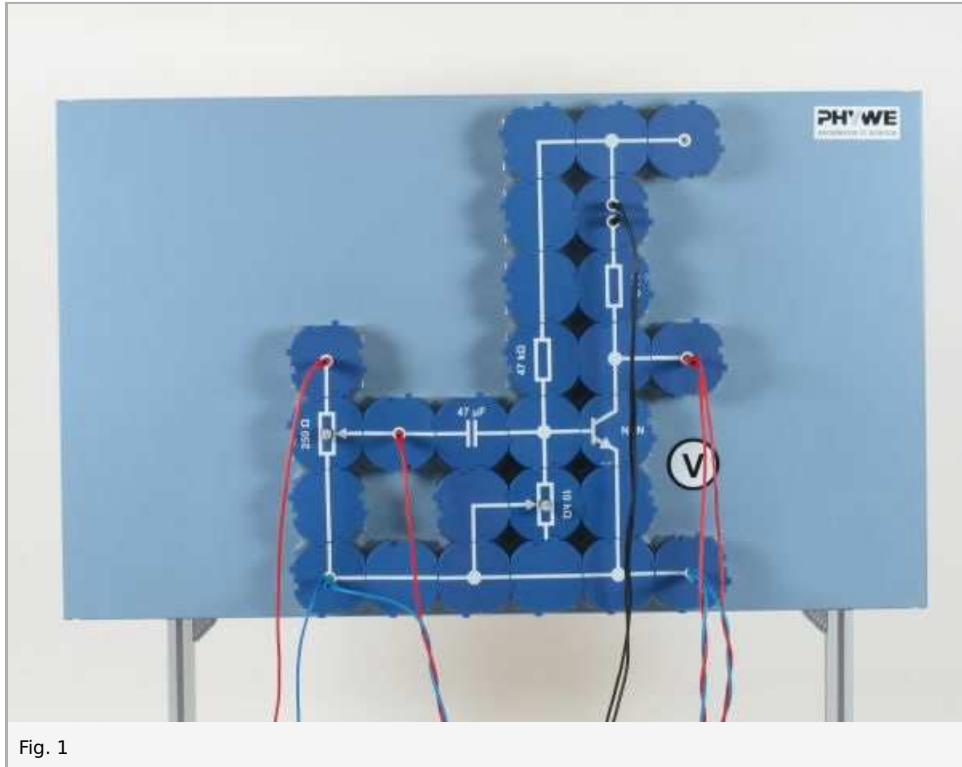

Fig. 1
- Set up the experiment as shown in Fig. 1; taking care that the earthing connections of the oscilloscope and function generator are connected together